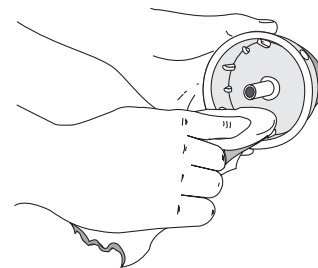

FIGURE 25
4. Use a clean cloth to wipe the the inner reel, spring, shaft and inner surface of the outer spool, Figure 25.